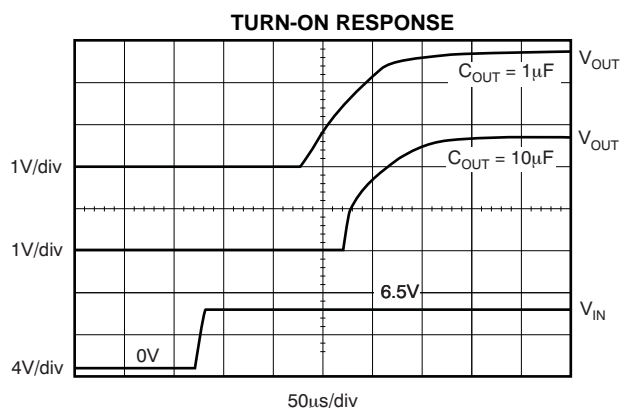

Figure 31.
Note that for fastest startup, V_{IN} should be applied first, then the enable pin (EN) driven high. If EN is tied to IN, startup will be somewhat slower. Refer to Figure 31 in the Typical Characteristics section. The quick-start switch is closed for approximately $135\mu\text{s}$. To ensure that C_{NR} is fully charged during the quick-start time, a $0.01\mu\text{F}$ or smaller capacitor should be used.